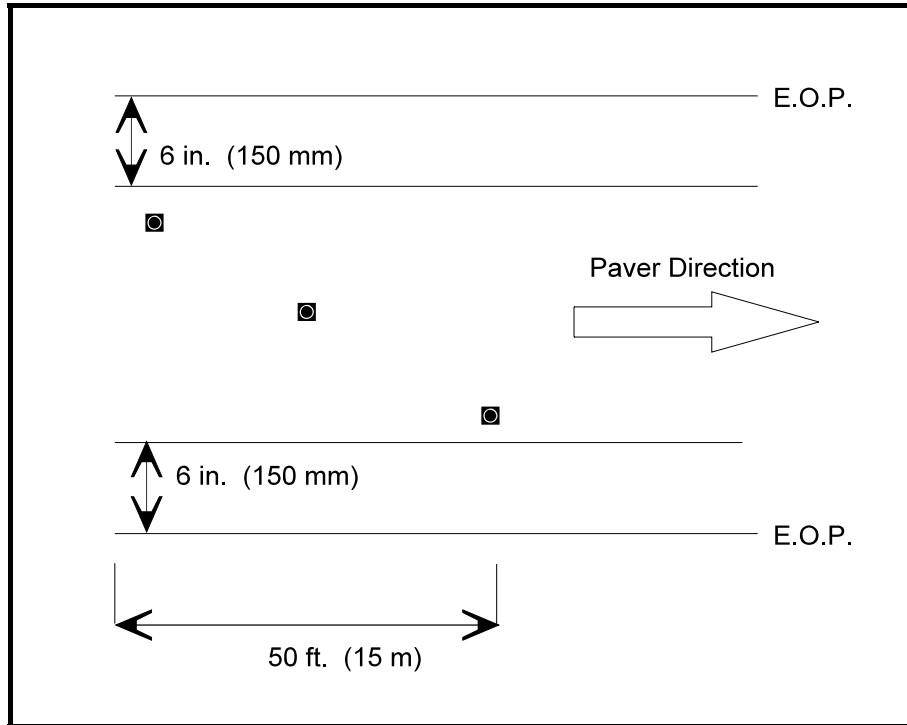

Figure 1: Incremental Sampling Pattern Behind the Paver
4.1 Sample the HMA paving mixtures at the point of delivery immediately behind the paver and before initial roller compaction. One composite sample consists of a minimum of three increments collected within 50 feet (15 meters) longitudinally and across the width of the paving operation (Fig .1).